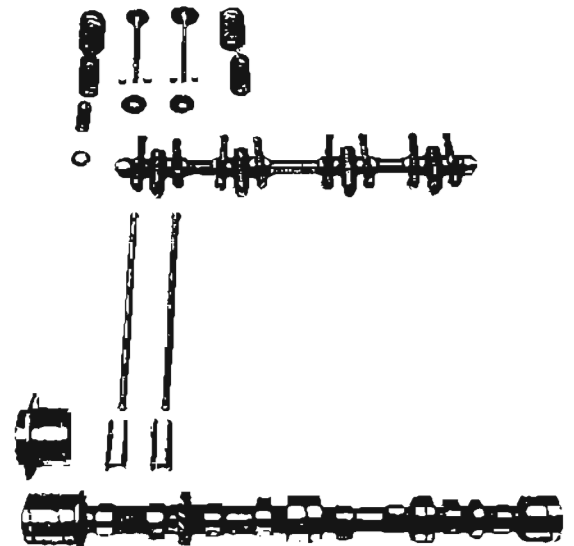

Fig. 9 Exploded view of Valve Operating Gear.
Inlet valves are provided with two springs. Three springs are used on the exhaust valves only (Fig. 9). Valve springs are located by a valve collar and held in position by split taper collars. The close coil of the valve springs must always be fitted to the cylinder head.
- (h) **The Camshaft** (Fig 9) is of special iron alloy having chilled cam faces and is provided with four journals. The front journal is accommodated in a flanged cast iron bearing, whilst the other journals are mounted direct in the cylinder block. In the near future it is proposed to fit four Vandervel bi-metal bearings to accommodate the camshaft. A recognition feature of engines so fitted with